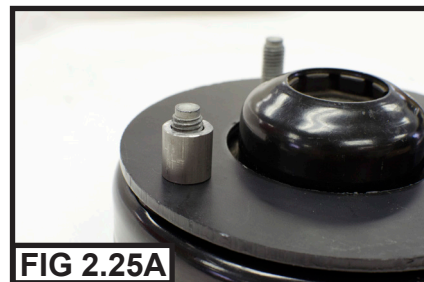

FIG 2.25A
- 12-A. Install **ONE** black Shim onto the strut mount. (FIG 2.25A)
- 12-B. Place the included **Height Trim Gauge Tube** onto one of the studs on top of the black shim. (FIG 2.25A)